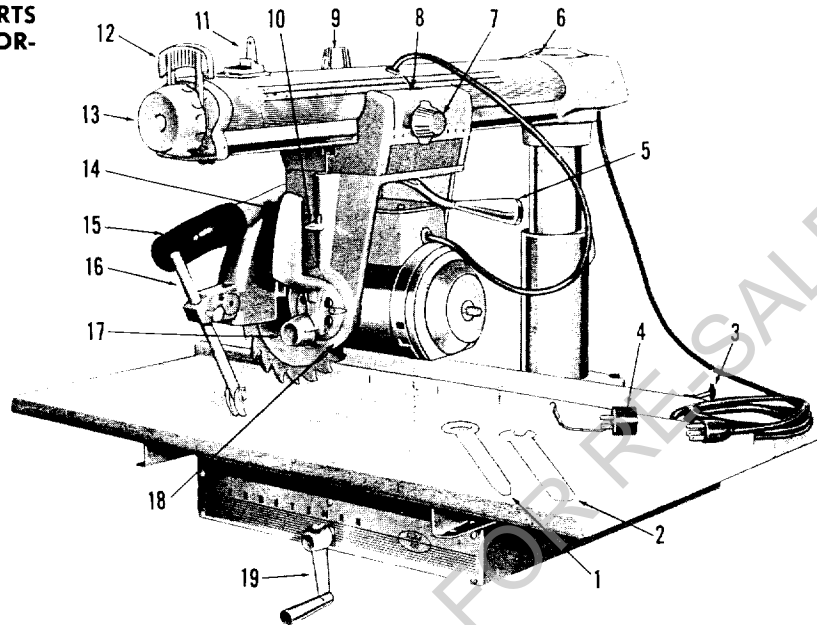
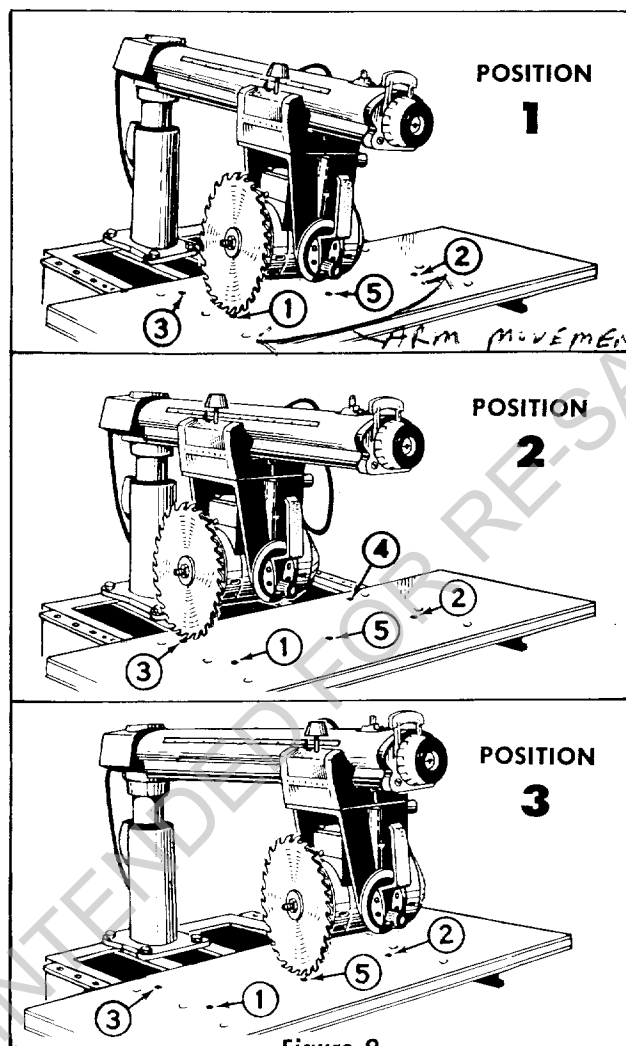
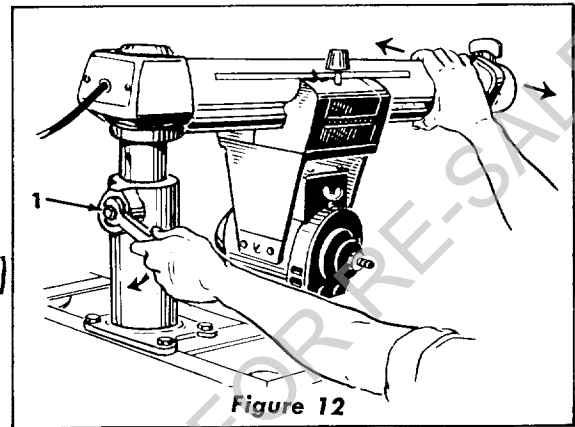
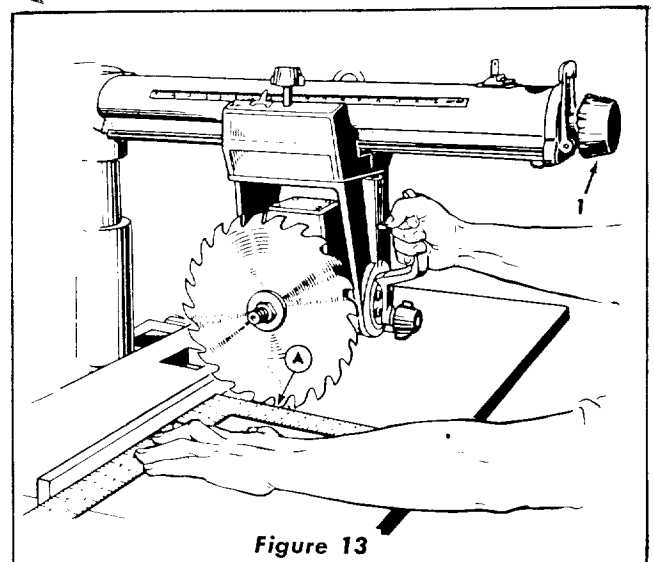

Figure 5
Figure 9
Figure 12
Figure 13
4. Replace arm latch (Item 12, Fig. 5) and carriage lock (Item 7, Fig. 5) for easy movement of blade during leveling operation. Lower blade and move to points 1, 2, 3 and 4 (Fig. 9) to find at which of these points the blade first touches the top of the table. Spin blade by hand and listen for pinging sound to pick up this high point.
1. Adjust by tightening Key Plug (Item 1, figure 12) using
Shaft Wrench (Item 2, figure 5) with the left hand while moving the Radial Arm slightly from side to side with the right hand (Figure 12).
1. Set radial arm at 0° index position and tighten arm latch handle. (Item 1, figure 13.)
2. Lay square against fence as shown in Figure 13 and position until it just contacts a blade tooth (See A, figure 13). Mark this tooth.
- a. If saw tooth "A" (Figure 13) moves away from the square when moving the blade from the rear to the front of the table, loosen the table bolts on the left side of the table and tighten the left table clamp (Item 3, figure 5).
- Slightly move radial arm in proper direction to make saw tooth "A" (Figure 13) follow edge of square when checking.